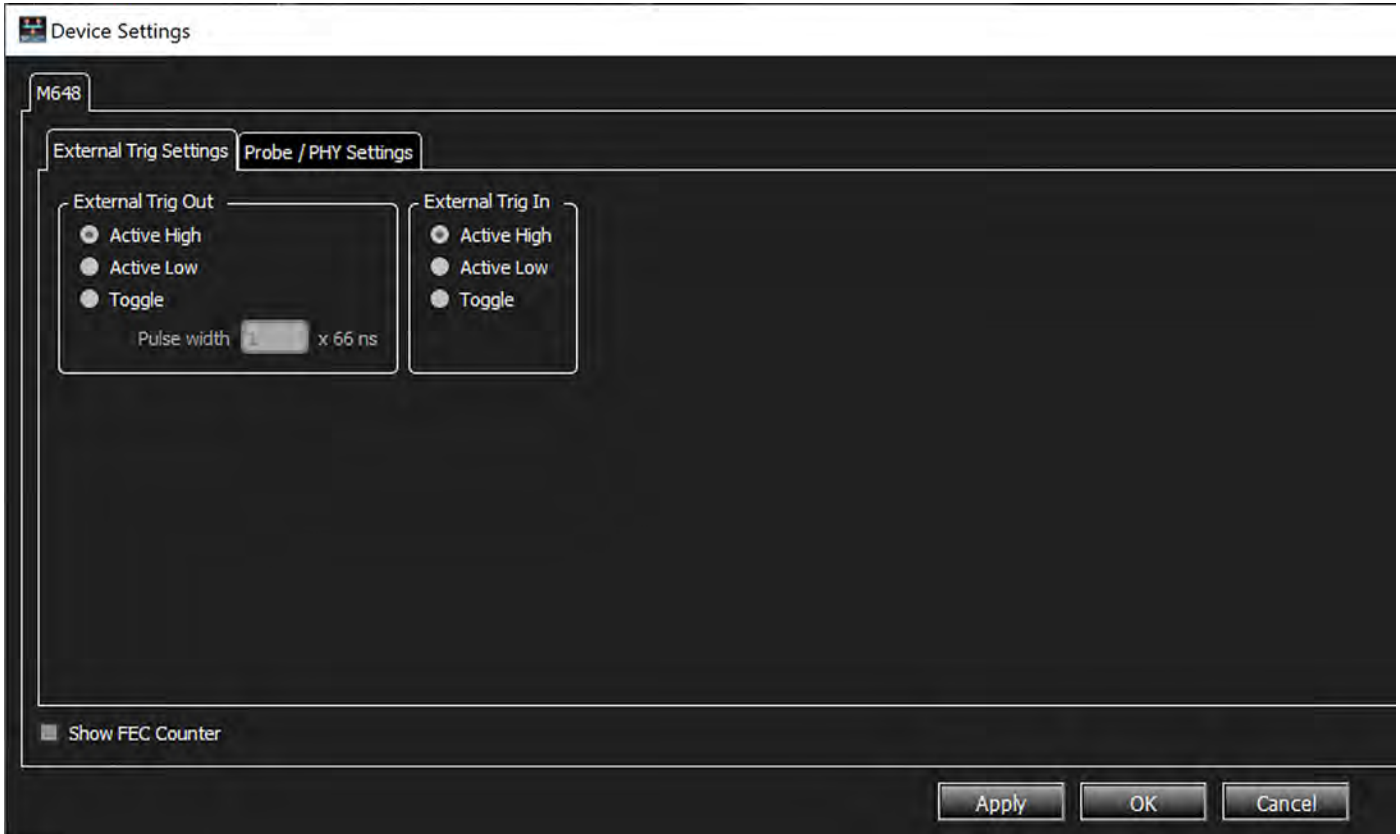

Figure 4.11: M648: External Trigger Settings
- External Trigger settings (see Figure 4.11)